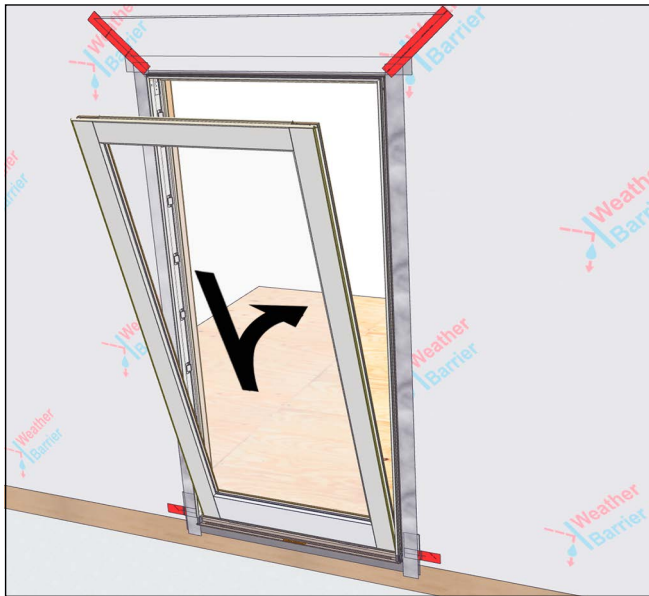

Figure 7
1. Panel is tipped into place and should engage with the clip on the frame. See Figure 7.